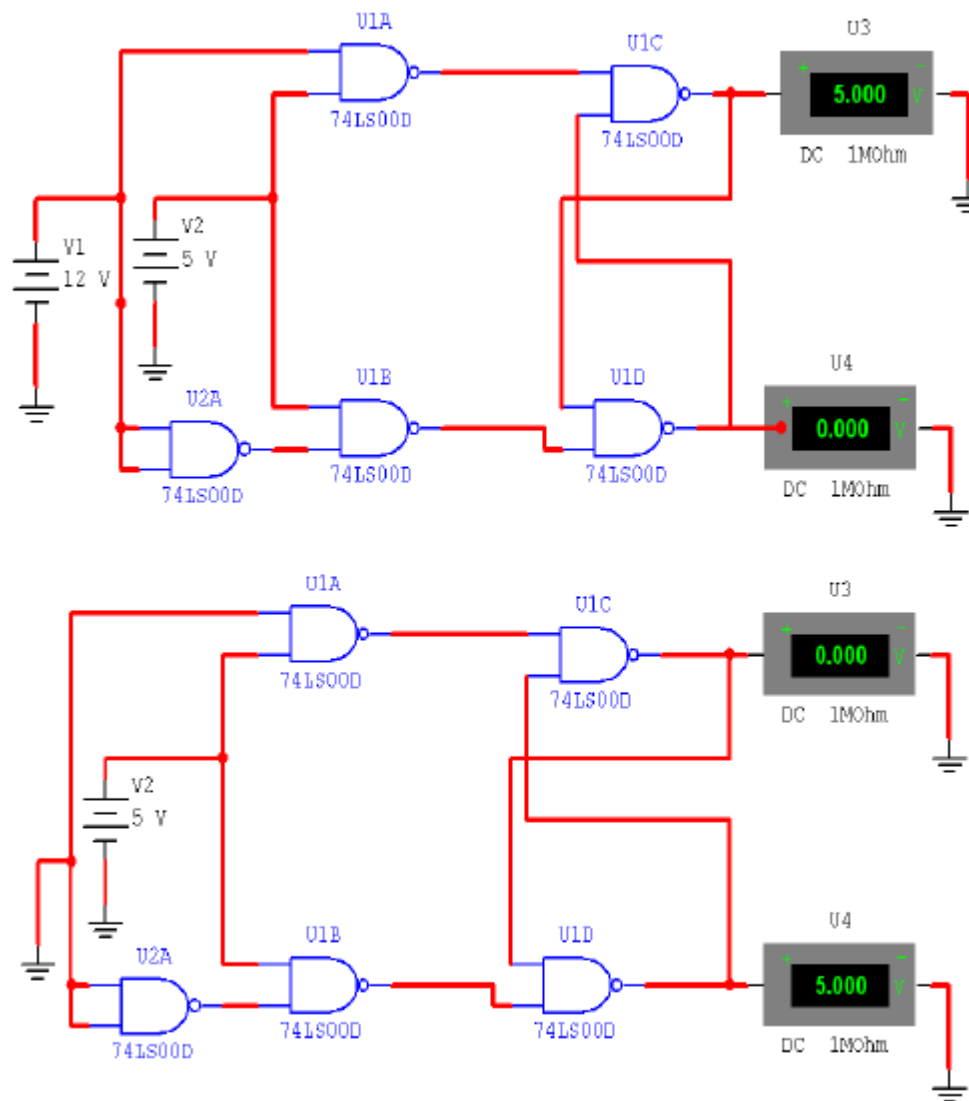

Fig.21 D-flip flop
- Construct the circuit shown in Fig.21.